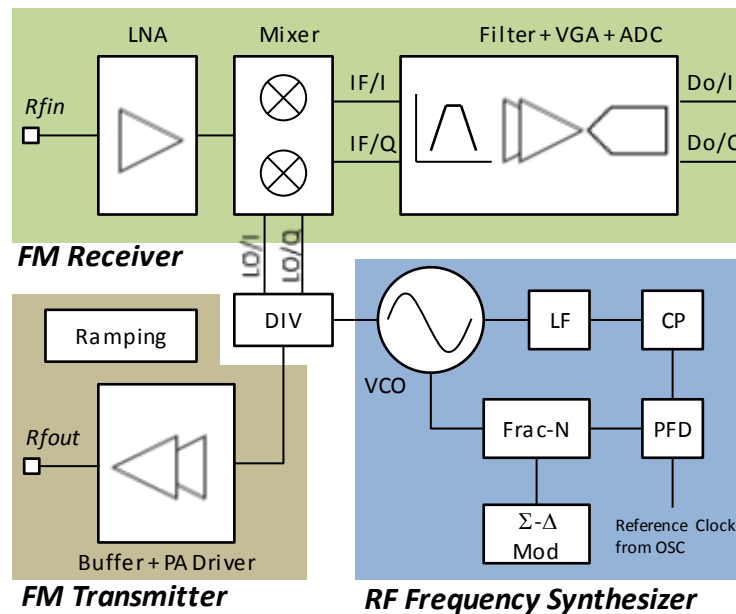

Figure 2. Radio Block Diagram
digital converter(ADC). The block diagram of the FM receiver is shown in Figure 2.
The transmitter is a single-ended amplifier including a buffer, a PA driver and a ramping-control block. The block diagram of the transmitter is shown in Figure 2. Due to FM modulation is of constant envelope, the amplifier works in saturated mode to save current consumption.
An RF synthesizer is implemented to generate local oscillator(LO) signals. It includes a voltage controlled oscillator(VCO), a fractional-N divider(frac-N), a phase-frequency detector(PFD), a charge pump(CP) and a loop filter(LF). The RF synthesizer is shared for RX mode and TX mode. The block diagram of the synthesizer is shown in Figure 2.